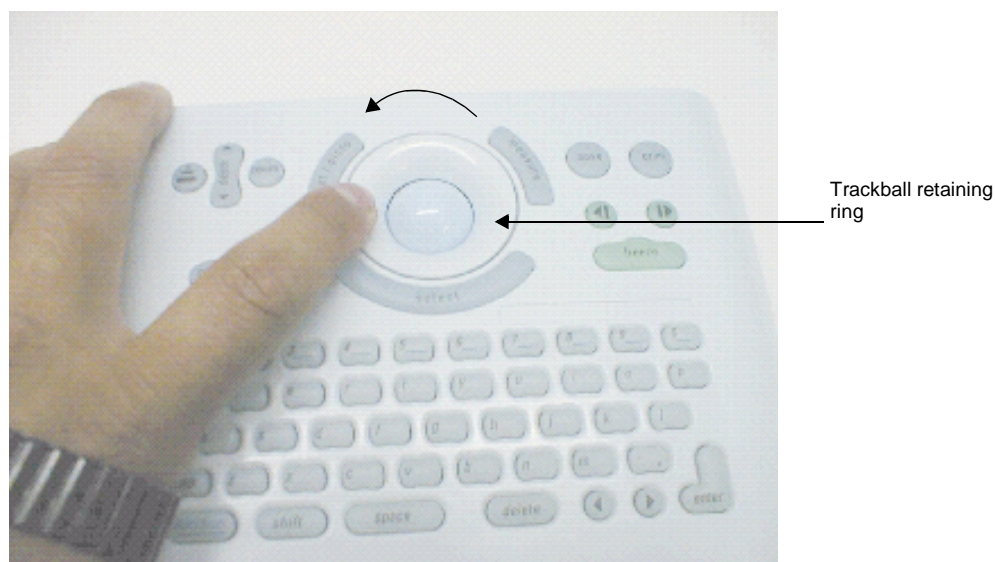

Figure 7.9 Removing the Trackball Retaining Ring
8. Remove the trackball retaining ring. Carefully insert the tip of a blunt punch into the indent, turn the trackball retaining ring slightly counterclockwise. This will release it and allow you to remove it (Figure 7.9).